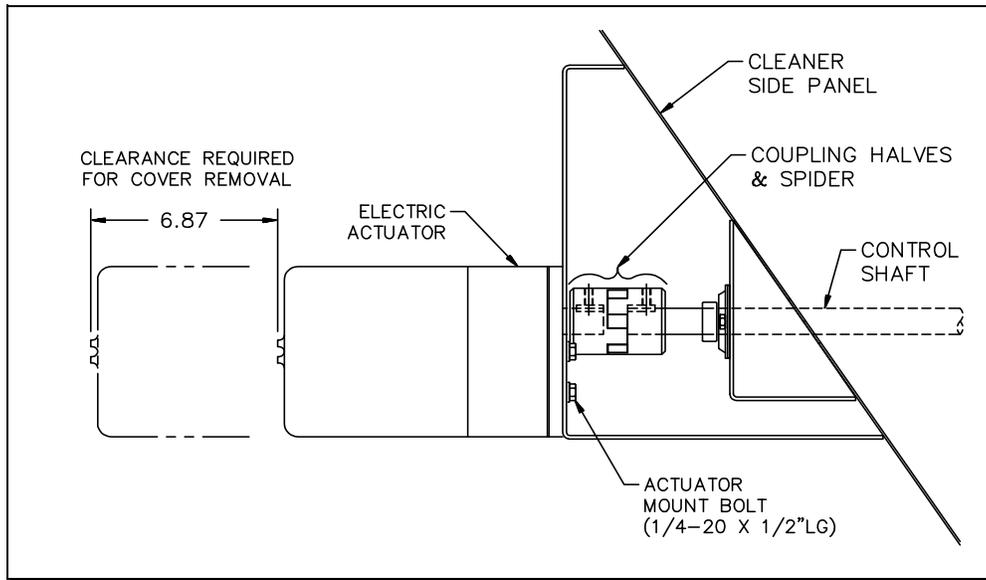

Figure 3-10, Rotary Actuator Installation, Models PC-16000, PC-25000, And PC-40000
3.3.7.2 Jordan/Rotork Actuator Installation, PC-16000 Through PC40000 (See Figure 3-10)